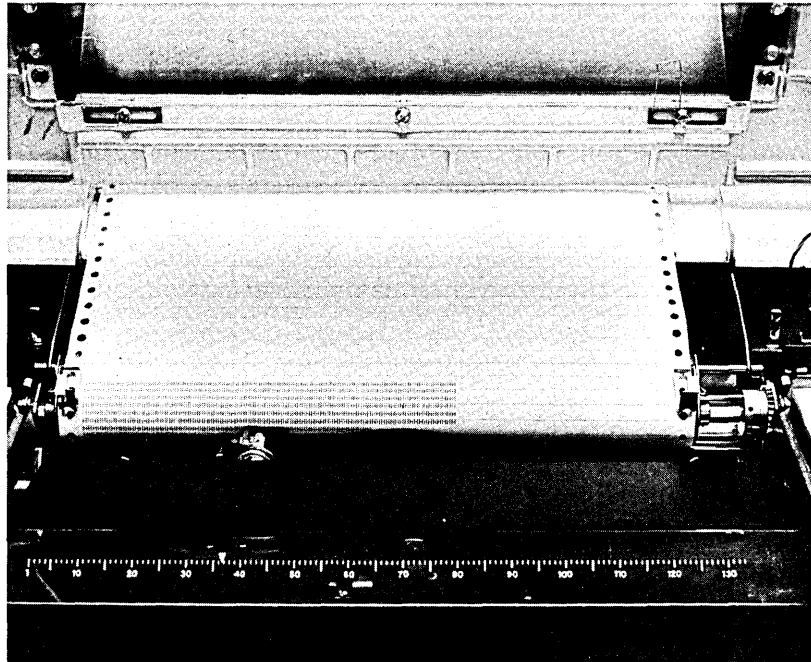

Figure 37. H-Pattern Printout
14. If more precise alignment is necessary, set the TEST PRINT PAT/ON LN/PRINT BFR switch to the PRINT PAT position and the MODE switch to MODE 2; then, push and release the START PRINT switch. A continuous line of H's prints, as shown in Figure 37. This will show where the print line is on the paper. Then press in and rotate the paper-advance knob to more closely align the form with the print line. Return the TEST PRINT PAT/ON LN switch to ON LN. When the paper is properly aligned, rotate the paper-advance knob to feed the paper through the paper exit slot in the cover.